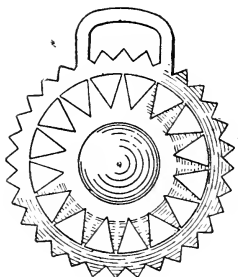

Fig. 76.
75) instead of tinned or japanned buckles, with brass face-pieces (Figs. 76 to 78) on the bridle to hang on the horse's forehead, brass bells for the bridle (Fig. 79), hame plates (Figs. 80 and 81) at the top of the collar between the two points of the hames or jambles, with a strap across from one hame point to the other to hold it in position, brass squares,
Figs. 76 and 77.—Brass Face-pieces.